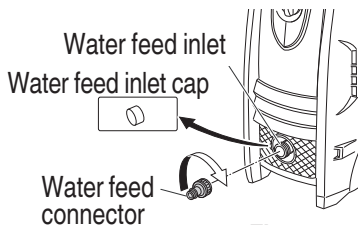

Fig. 5
1. Attach the water feed connector to the water feed inlet on the washer (Fig. 5)